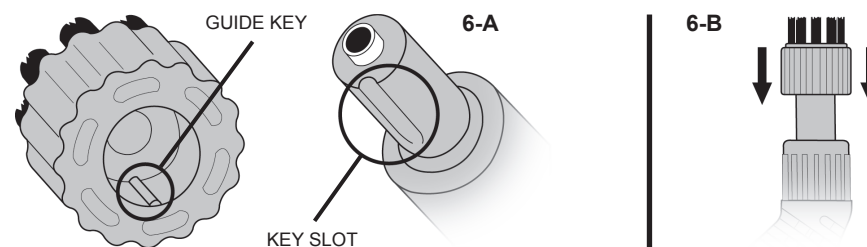

FIGURE 6
**NOTE:** The Nylon Utility Brushes and Brass Utility Brush are all attached in the same manner. A Nylon Utility Brush is illustrated in FIGURE 6 as an example.
1. Align selected Utility Brush with Jet Nozzle. Guide key inside of Utility Brush should line up with key slot on Jet Nozzle tip (FIGURE 6-A).
2. Firmly press Utility Brush onto Jet Nozzle (FIGURE 6-B).